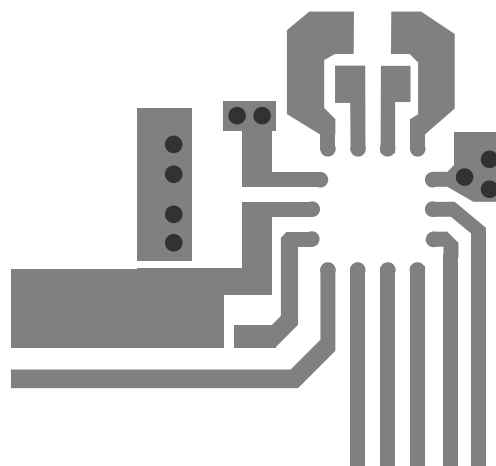

Figure 3 — Layer 1
- Figure 3 shows the pads on layer 1 that should be connected with vias to layer 2. C_{IN} , C_{OUT} and the GND pin all use vias to connect to the ground plane. The OUT pin also uses vias and routes on layer 2.